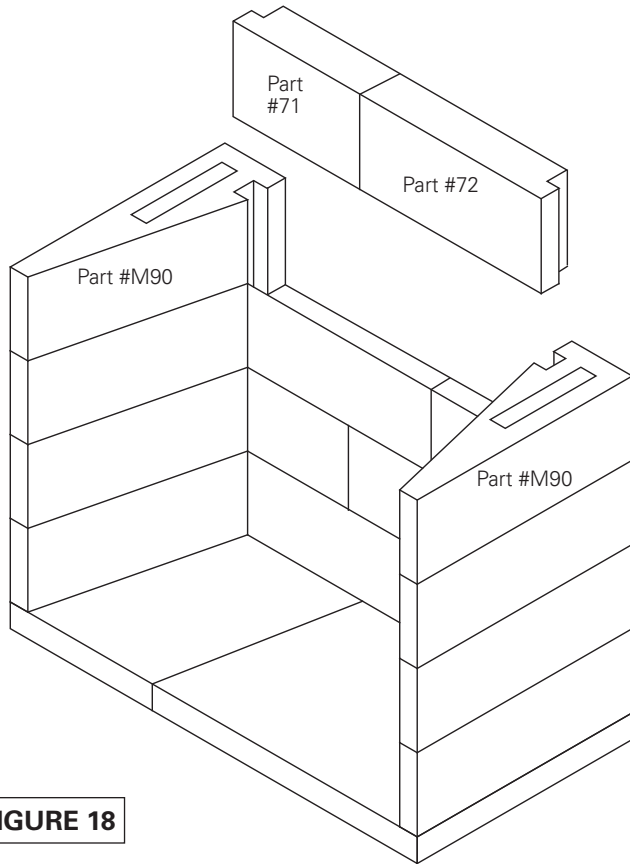

FIGURE 18
3. Continue assembly of the consecutive courses of the firebox side wall and back wall, making sure to stagger the backwall components so that the vertical joints do not align. Apply Earthcore adhesive to the top of each layer of wall components, set the next course above into place. Be sure to Earthcore adhesive all vertical joints of the side wall to back wall connection when setting each component to its mate. **(Figure 18)**